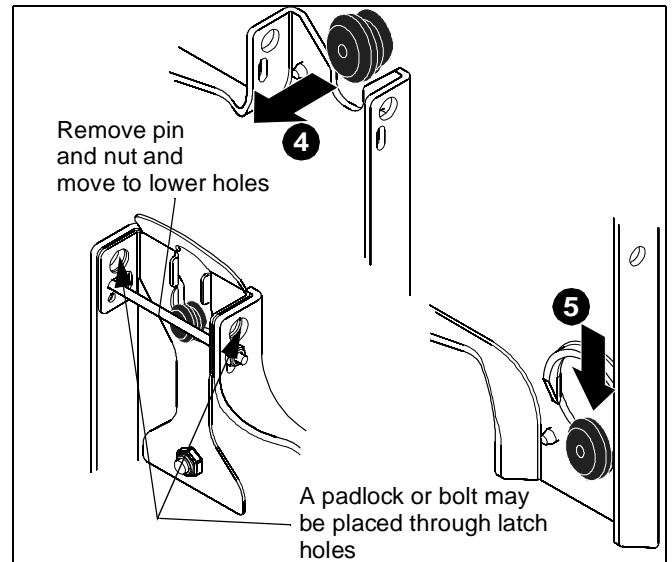

Figure 7
**NOTE:** Holes are provided in the faceplate for use with a padlock or similar locking device, if desired. In addition, the pin and nut may be removed from the upper holes and moved to the lower holes for use as a more permanent locking device. (See Figure 7)